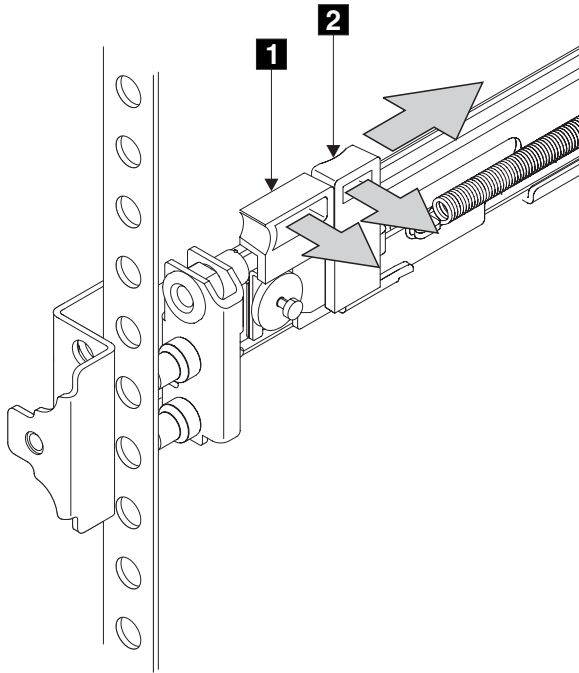

Figure 46. The left support rail for the SAN Volume Controller
- Put your left index finger onto the back edge of the latch lever **2** and your left thumb on the front edge of the latch lock **1**, as shown in Figure 46.